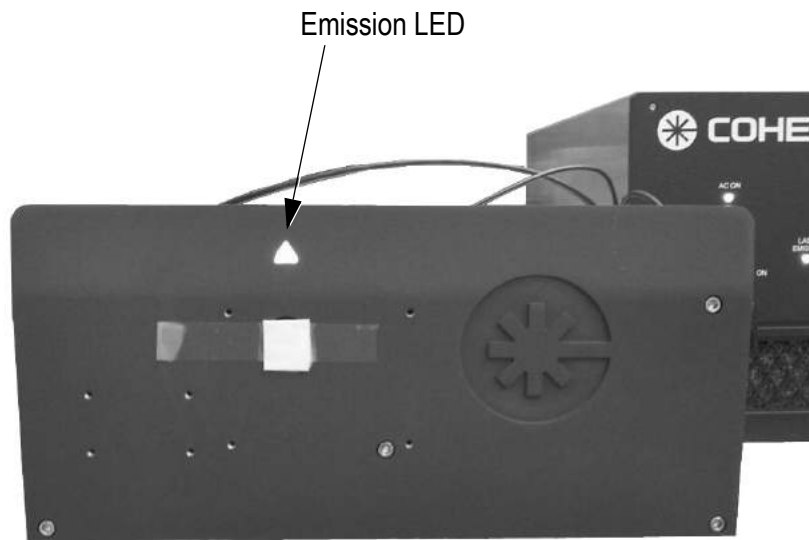

Figure 5.18-3. Emission LED ON
2. Verify the emission LED is illuminated. See Figure 5.18-3 below.